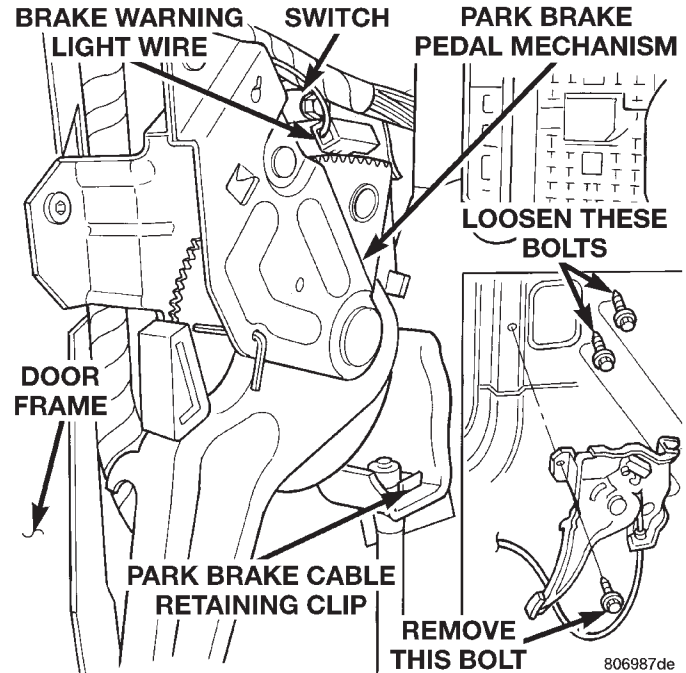

Fig. 92 Park Brake Pedal Mechanism
(1) Reload the self adjuster mechanism of the park brake pedal. Use the procedure as described in Reloading Self Adjuster in Service Procedures Section in this group of the service manual.
(2) Remove the brake warning light ground wire from the switch on the park brake mechanism (Fig. 92).
(3) Using a screw driver, pry the park brake cable retaining clip (Fig. 92) from the park brake cable.
(4) Remove the 1 bolt holding park brake pedal assembly to door frame (Fig. 92). Loosen but do not
remove the 2 bolts attaching park brake pedal mechanism to inner body panel (Fig. 92).
(4) Install park brake pedal mechanism onto the 2 loosened mounting bolt on inner body panel (Fig. 92). Install the park brake pedal assembly retaining bolt into door frame (Fig. 92). Tighten all 3 park brake assembly mounting bolts to a torque of 27 N·m (19 ft. lbs.).
(5) Connect the brake warning light wire from vehicles wiring harness, onto switch located on park brake pedal mechanism (Fig. 92).